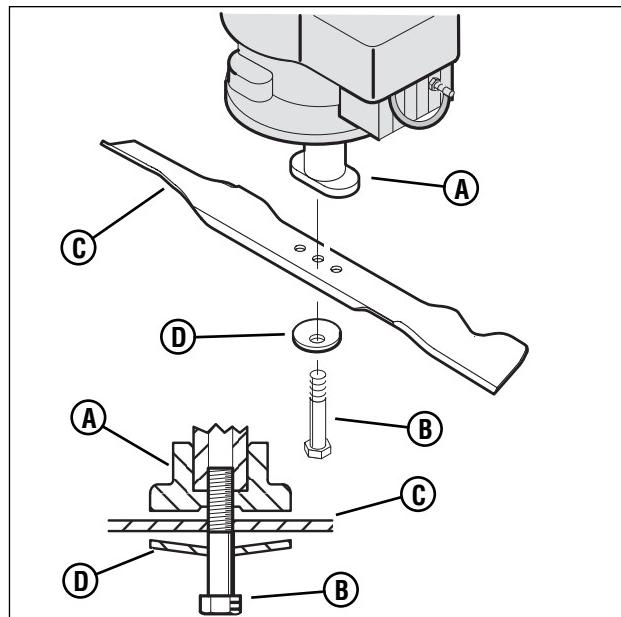

Figure 24: Removing the blade
Frequently check the blade for wear or damage such as cracks. Frequently check the bolt that holds the blade. Keep the bolt tight. If the blade hits an object, stop the engine. Disconnect the wire to the spark plug. Check the blade adapter (**A**, **Figure 24**) for damage. Check for a bent or damaged blade, a badly worn blade, or other damage. Before you operate the unit, damaged parts must be replaced with factory replacement parts. For safety, replace the blade every two years. Keep a sharp edge on the blade. A blade that is not sharp will cause the ends of the grass to become brown. Remove the blade as follows.
4. Remove the bolt (**B**, **Figure 24**) that holds the blade with a 9/16" (14mm) wrench.